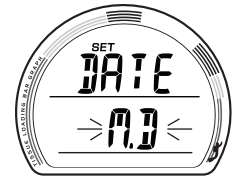

Fig. 48 - SET DATE FORMAT
**SET DATE FORMAT**, information is to include (Fig. 48):
*Date Format is used to establish the position on the screen of Month (M) relative to Day (D), which one is displayed on the left and which one on the right.*